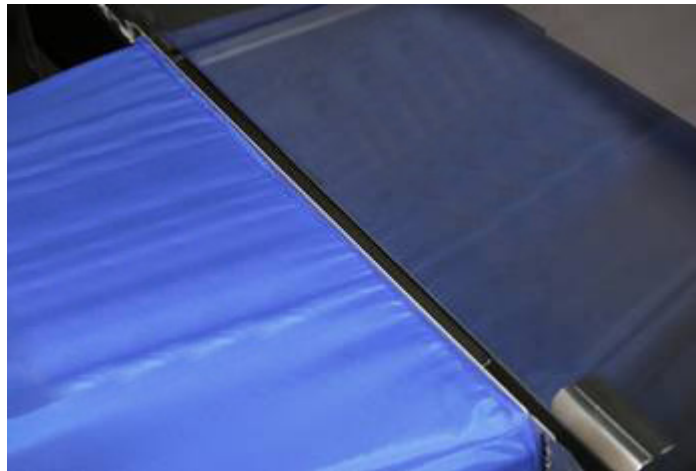

Figure 27: Lower Sash of Cabinet Until it Rests on Foam Lip of Hood Frame
6. Lower the sash of the cabinet until it rests on the foam lip of the hood frame (see Figure 27).